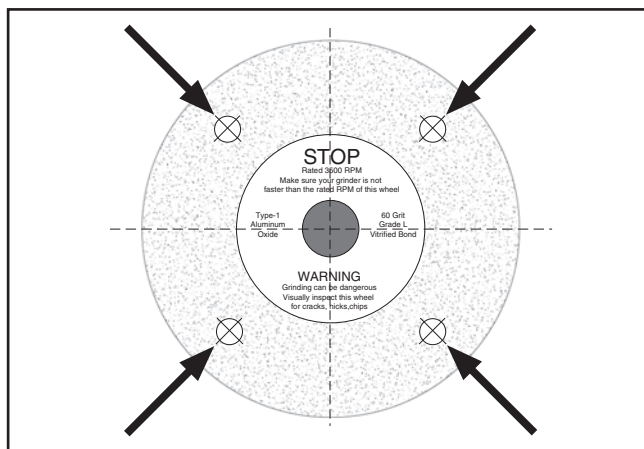

Figure 13. Tapping locations when performing a ring test.
3. At spots shown in **Figure 13**, gently tap grinding wheel with a light non-metallic device such as handle of a screwdriver or a wooden mallet.